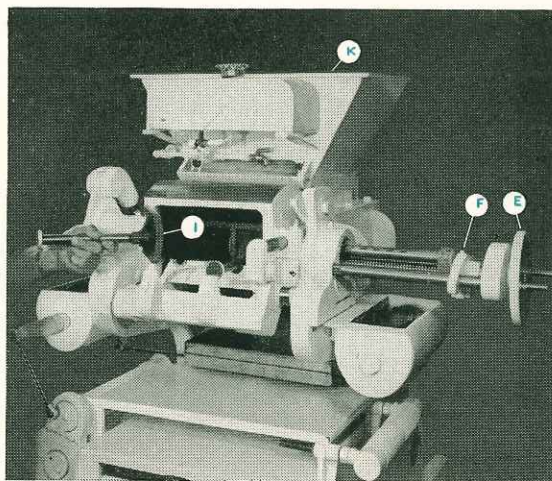

FIG. 2
- 1 Remove cylinder guard and index guard as shown in Fig. 2.
- 4 Remove plungers (I) as shown in Fig. 2 and clean. It is advisable to remove and clean one plunger at a time, replacing same before removing the next one.
- 6 After thoroughly cleaning plungers and pockets, replace plungers, replace bearing yoke (H) and knurled hand nut (G) making sure nut is tightened firmly.
- 7 Turn handwheel (E) so that index pointer (F) is as far to the left as possible and replace index guard.
- 8 **CAUTION** — Never operate machine unless index guard is in place. Pour a pint of divider oil in Hopper (K) and let machine run for a few minutes, catching oil in pan provided.